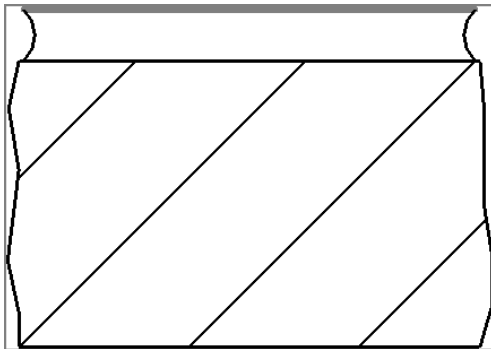

FIGURE 12.32: Draw the textured face while you're in the Edit mode for the filled region. Draw the arcs for the mortar joint using lines.
12. Draw the jagged lines on both sides, as shown in Figure 12.32.
17. Draw an arc on both sides of the brick (see Figure 12.32).